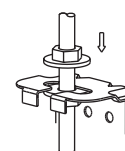

Fig. 5-7
- Locate the air conditioner firmly by wrenching the nuts after having adjusted the body's position well. (refer to fig.5-7)